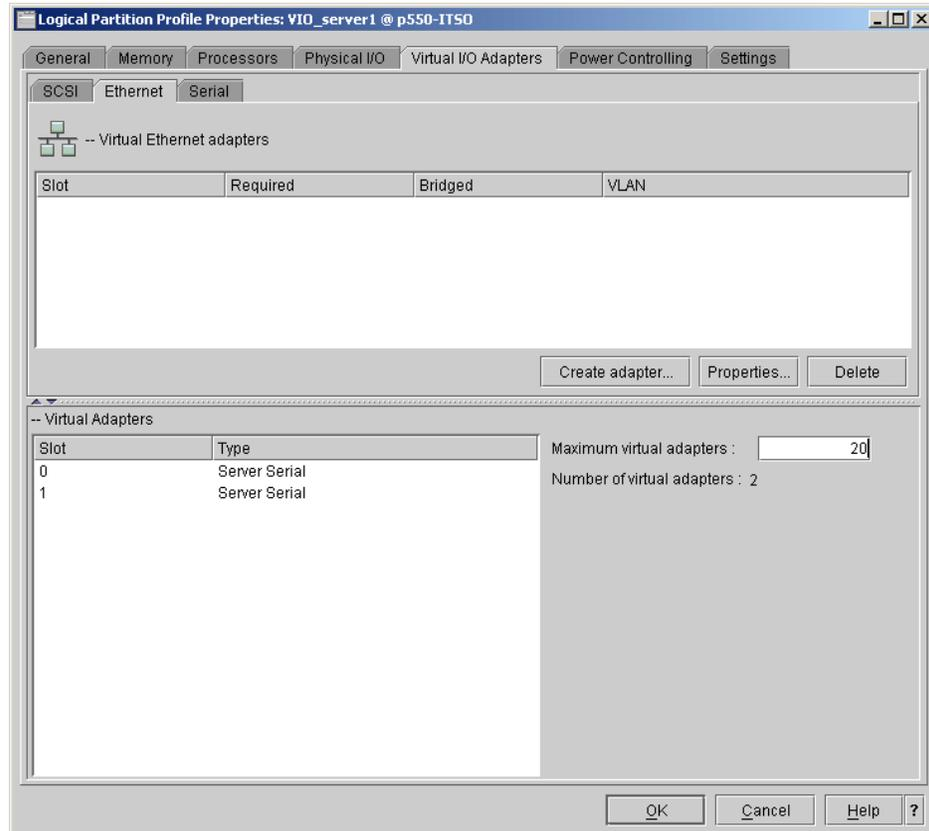

Figure 3-13 Virtual Ethernet tab
1. Click the **Virtual I/O Adapters** tab and then click the **Ethernet** tab, as shown in Figure 3-13.